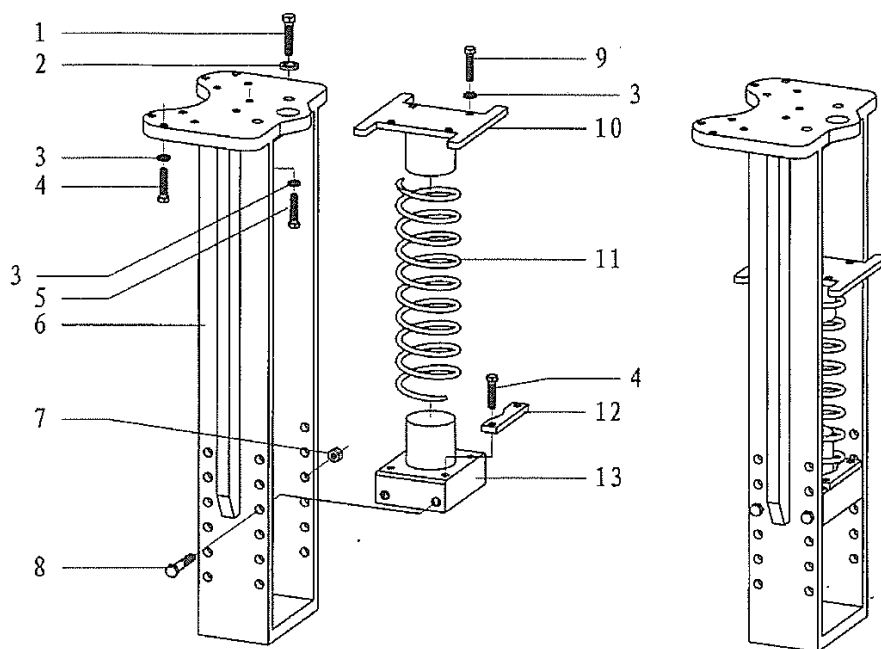

Fig27.
8.16 Back seat assembly (Fig27. Table27)